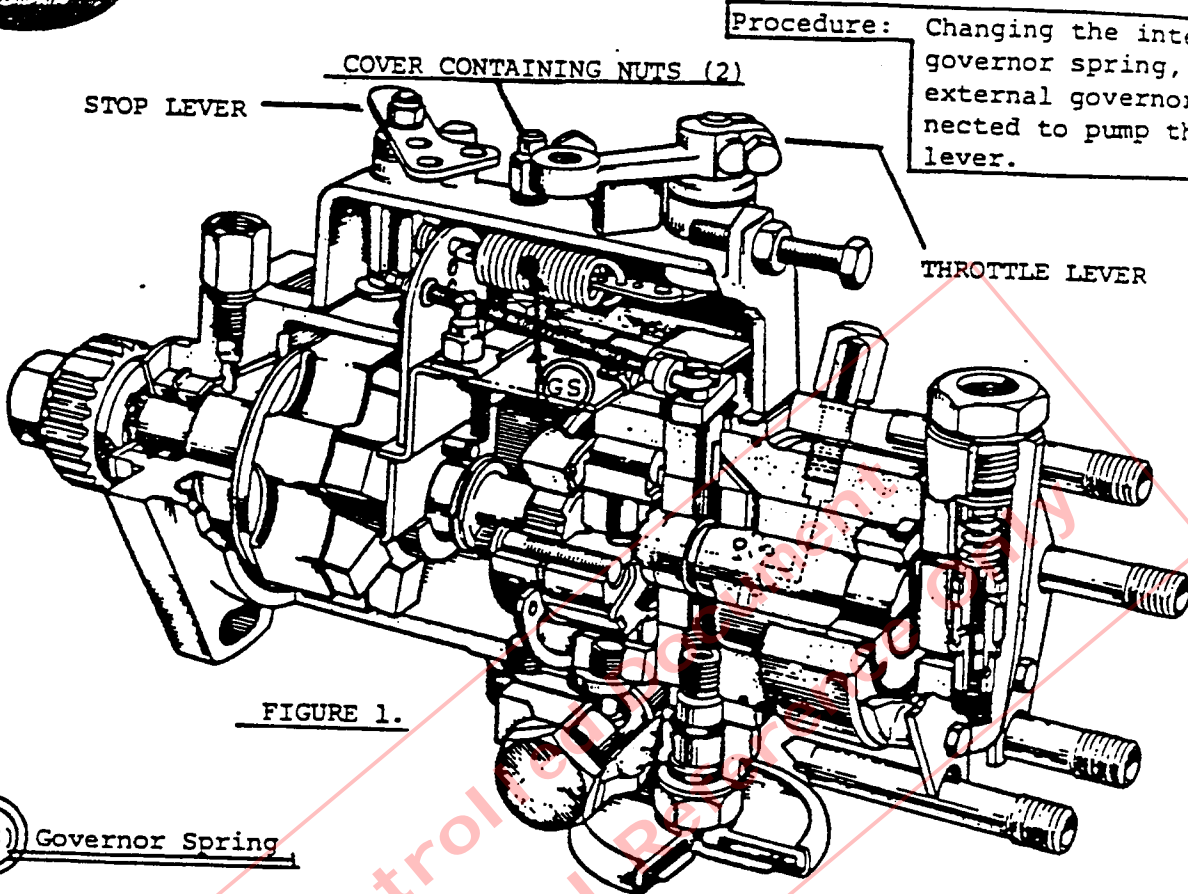
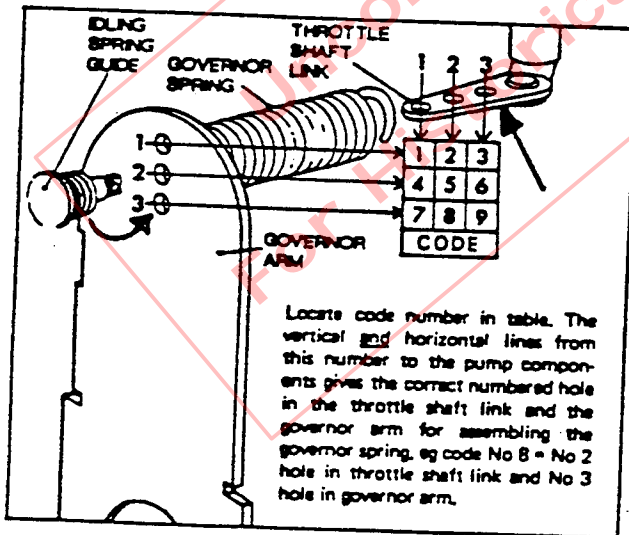

FIGURE 1.
FIGURE 2.
1. Observe in Figure 1 how existing governor spring looks when installed.
2. Remove the (2) cover stud nuts.
- 4a. Observe in Figure 2 how throttle shaft link fits inside the spring.
10. Replace cover and (2) cover retaining nuts.